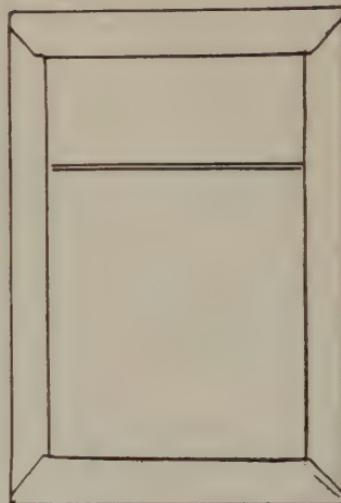

FIG. 75—EASEL COVERED
- Turn-in the four edges as you did before, being careful to do the two long edges first. Nick the corners and complete the turning-in. (Fig. 75.)